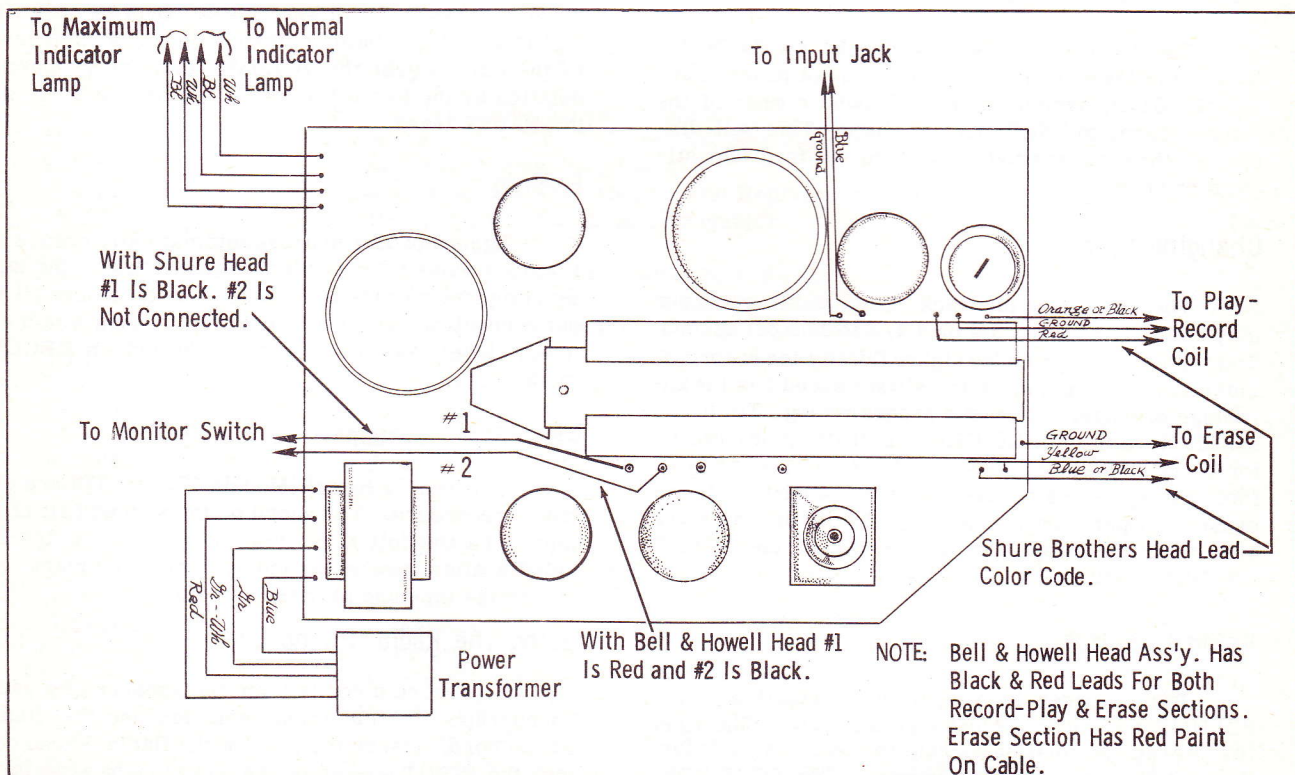

FIGURE 1.
1. Disconnect all plug-in leads shown in Fig. 1.